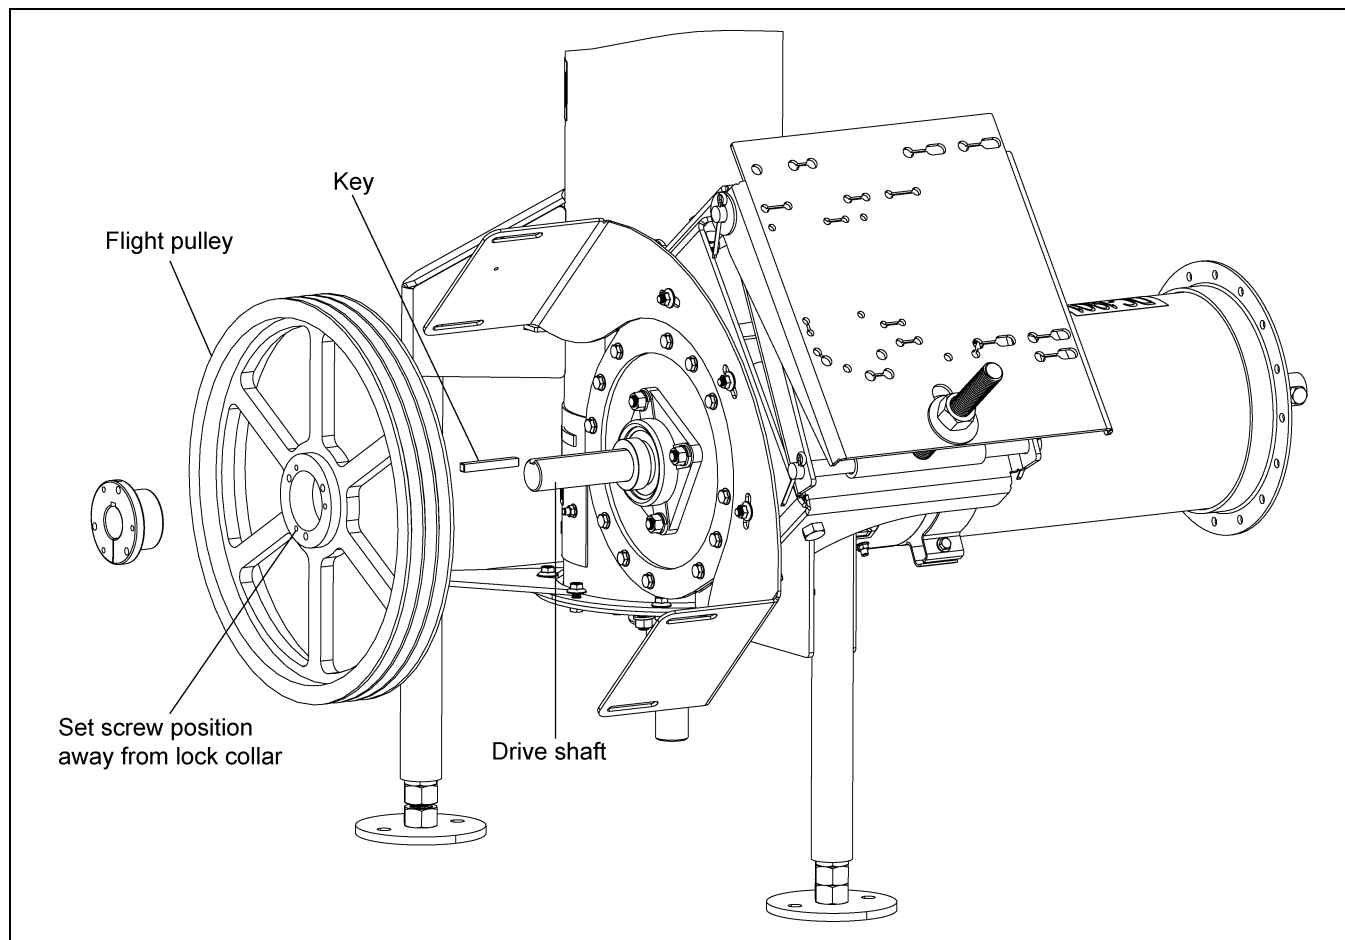

Figure 4T
3. Once the pulley is appropriately positioned, tighten the set screw with a hex head wrench to secure it to the drive shaft. (See Figure 4T.)